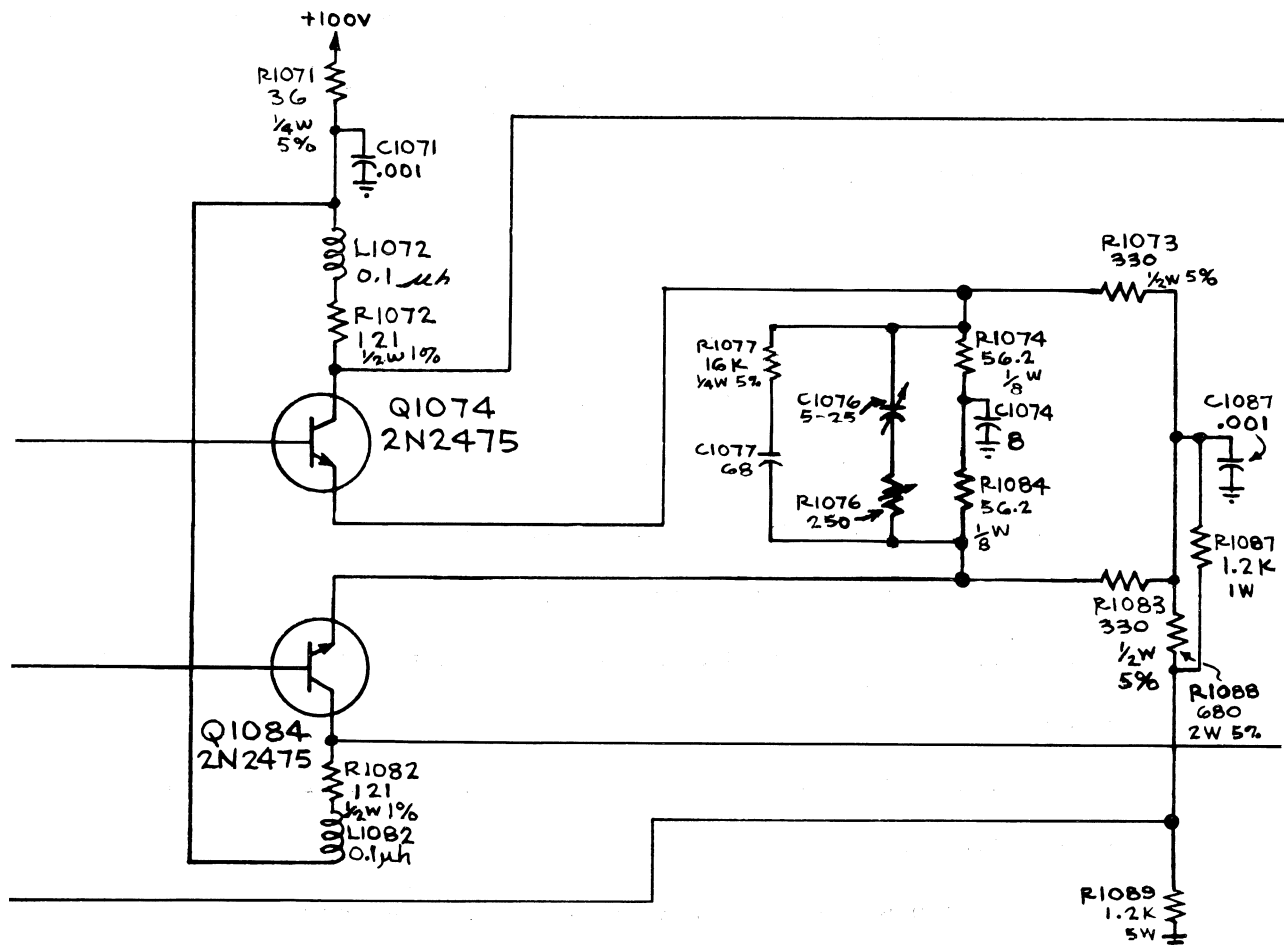

Figure 1-5
5. Fourth stage (Q1074 and Q1084) (Fig. 1-5)